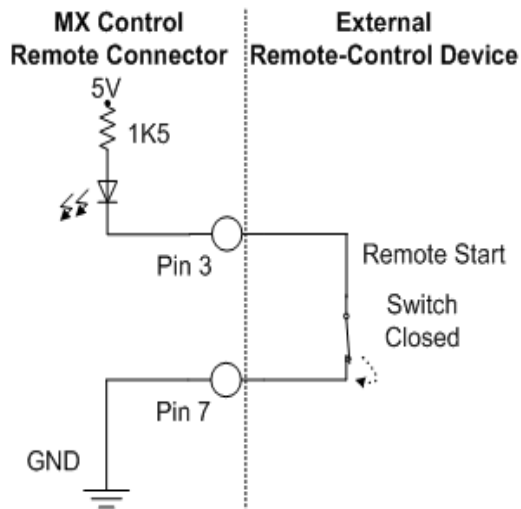

Figure A-3: Example of Remote Switch
Of these seven pins, your external switch is concerned with the two control input pins (3 and 5) and the ground pin (7). In order to start a remote capture, your external switch must force pin 3 to GND (that is, short circuit it). In order to stop a remote capture, your external switch must force pin 5 to GND. Figure A-3 page A-18 illustrates the